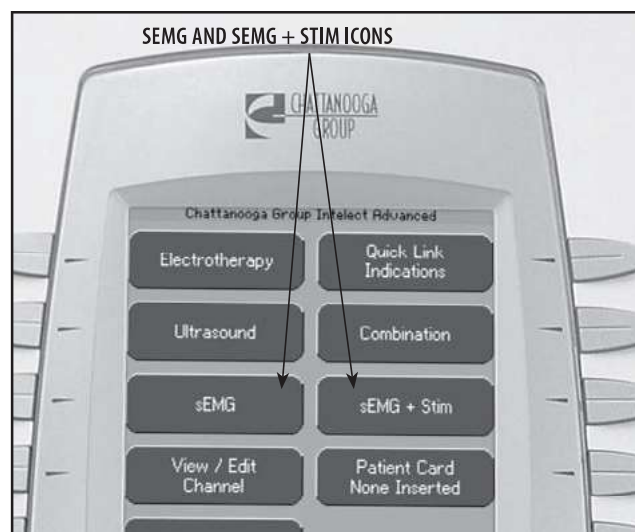

FIGURE 5.30
1. Turn System On. View Home Screen for the presence of the sEMG and the sEMG + Stim icons. See Figure 5.30. If icons are not visible, stop test and make necessary repairs to the sEMG Module and System.